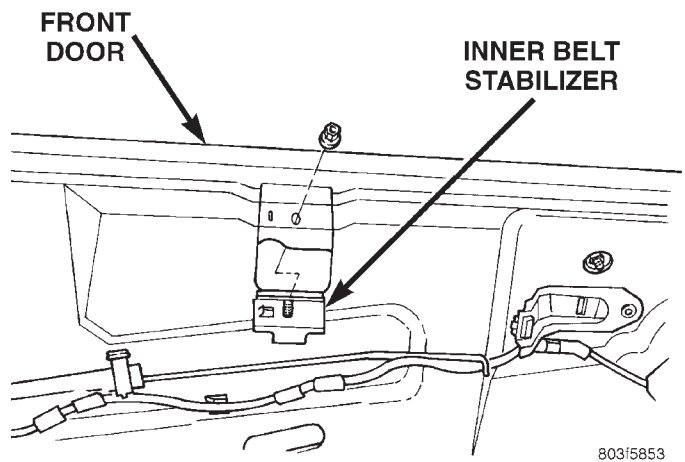

Fig. 20 Inner Belt Stabilizer
- (1) Remove door trim panel.
- (2) Remove nut holding inner belt stabilizer to door panel.
- (3) Separate inner belt stabilizer from door. (Fig. 20)